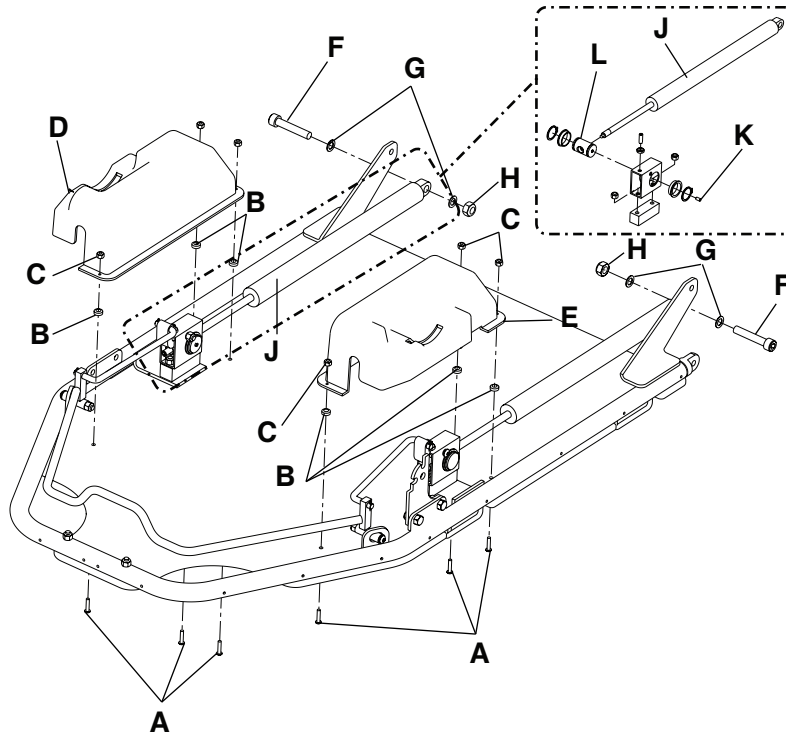

Figure 11 – Pneumatic Fowler backrest adjustment
5. Using a 3/32" hex wrench and a 3/8" combination wrench, remove the button head cap screws (A), fiberlock hex nuts (C), and spacers (B) that secure the Fowler backrest covers (D and E) located under the Fowler backrest skin. Remove the Fowler backrest covers (D and E) (Figure 11).